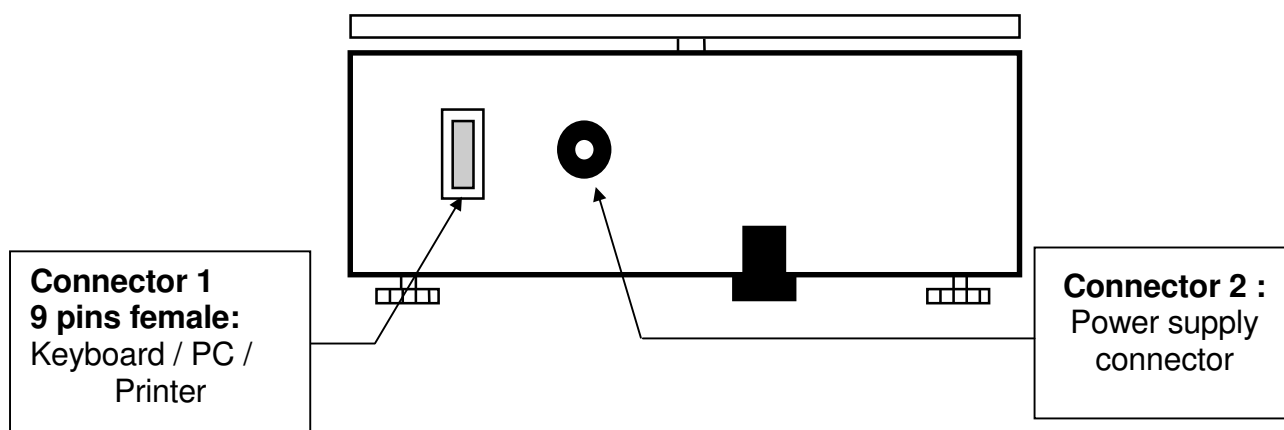

Fig. 1 Rear side of the balance
Selecting the transmission to PC (personal computer IBM compatible), it is achieved a continuous transmission output, at the same rate of weight update on display of the balance. It is possible to perform all the functions of the balances directly from the computer keyboard, transmitting to the balance the ASCII codes as in the table below. The connector to use for connection to PC is the number 1 (fig.1 pag. 46).
3. Selecting the transmission to PC at user command, it is achieved a transmission output only when the **PRINT** button is pressed, also in this case it is possible to perform all the functions of the balance directly from the keyboard of the computer, sending to the balance the ASCII codes in the table above. The connector to use for connection to PC is the number 1 (fig.1 pag. 46).
To receive/transmit data, connect the connector 1 (fig.1 pag. 38) of the balance to the serial port of the PC as shown below:
The connector to be used for the connection is the number 1 (fig.1 pag.46)